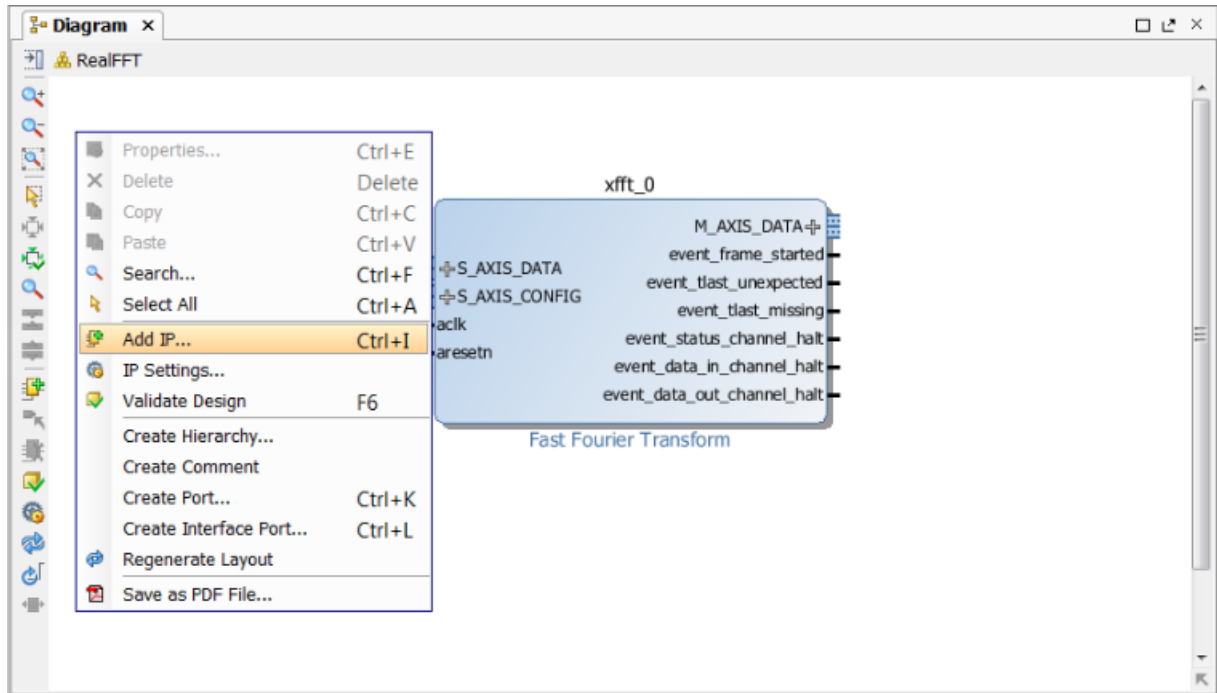

Figure 9-15: Add IP Blocks
6. Right-click in any space in the canvas and select **Add IP** (Figure 9-15).